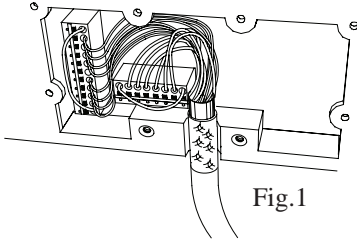
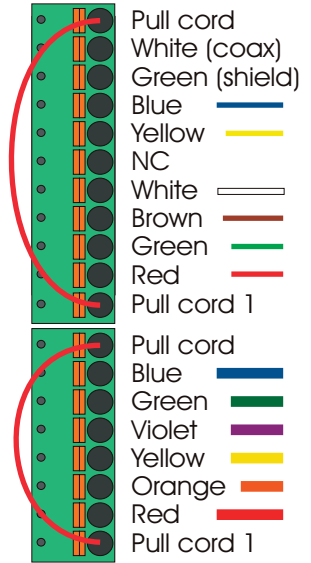

Fig.1
Fig.2
4. Pass the cable up through the opening and place the cable screen into the groove (Fig.1), and then position the rubber ring at the cable inlet and tighten the coupling ring.
5. Attach the thick wires to the included 8-pin connector and the thin wires to the included 11-pin connector (Fig.2). Fix connectors to PCB (Fig.1).